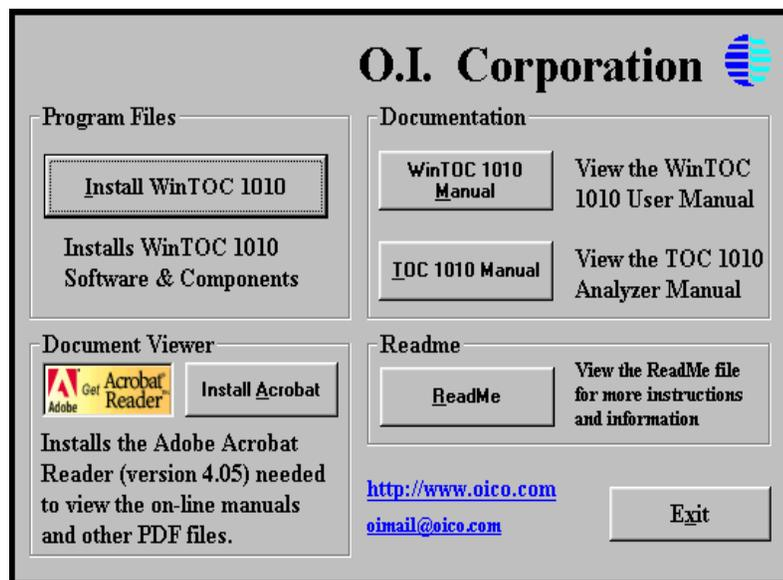

Figure 2.1. WinTOC 1010 Launch screen
**Note:** The WinTOC Launch screen (Figure 2.1.) should appear automatically within one or two minutes, depending on the CD-ROM drive’s reading speed. If it does not, follow the instructions in step 3. If it does, go to step 4.